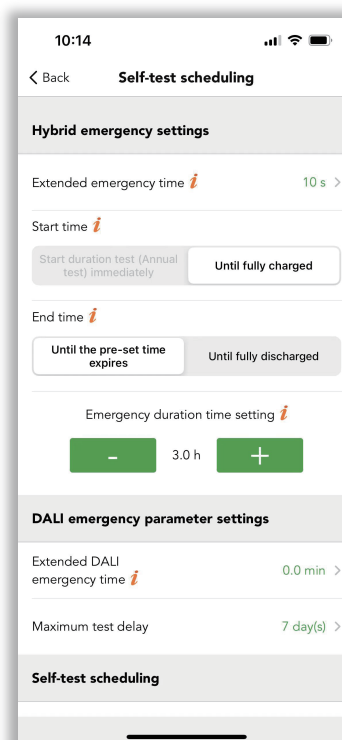

Figure 4.3 Self-test scheduling
- ※ Both DALI emergency and hybrid emergency control devices can be controlled by the same push switch. The difference is that the hybrid emergency also needs to configure the start time and end time for the test, and the battery discharge time(see figure 4.3), but all these are not workable for DALI emergency control devices. For DALI emergency, as long as users push the switch, then the test will be carried out immediately. But if the battery happens not fully charged, then the annual test will be postponed until fully charged, details need to refer to the third-party driver.